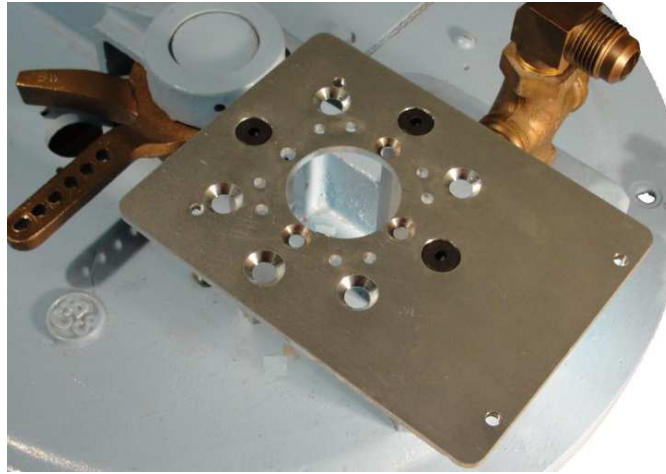

Figure 8: Actuator Base Plate Installed
7. Place a small amount of medium threadlocker on the $\frac{1}{4}$ "-20 x 0.75" flat head screws. Thread the screws through the plate and into the standoffs. Figure 8 shows the assembly after this step.